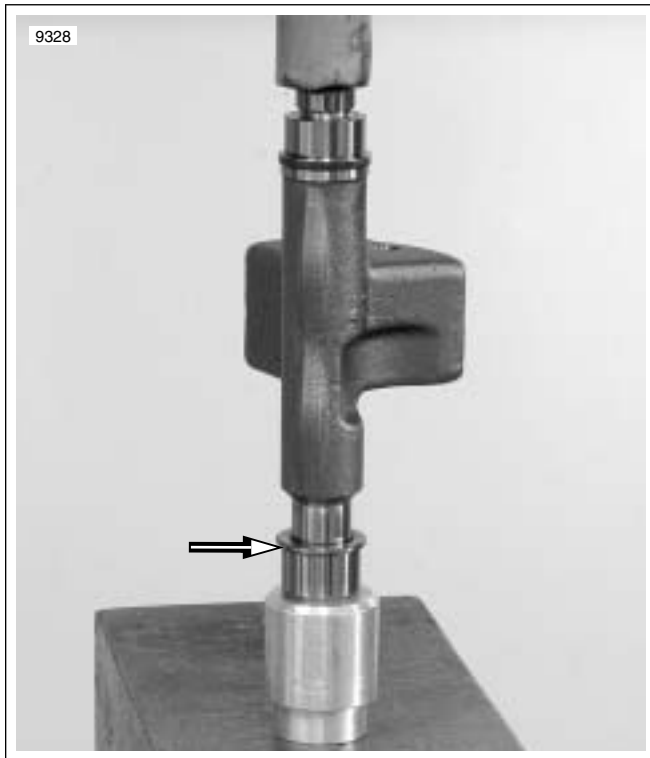

Figure 3-168. Inboard Bearing Race
1. See Figure 3-168. Press **new** inner race of inboard bearing even with the end of the counterbalancer.